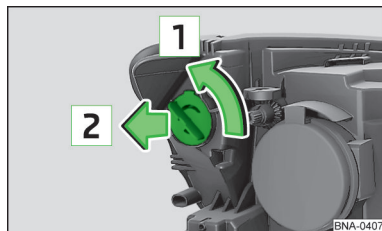

Fig. 110
- › Turn the pedestal with the light bulb in the direction of arrow **1** and pull out in the direction of arrow **2** » fig. 110.